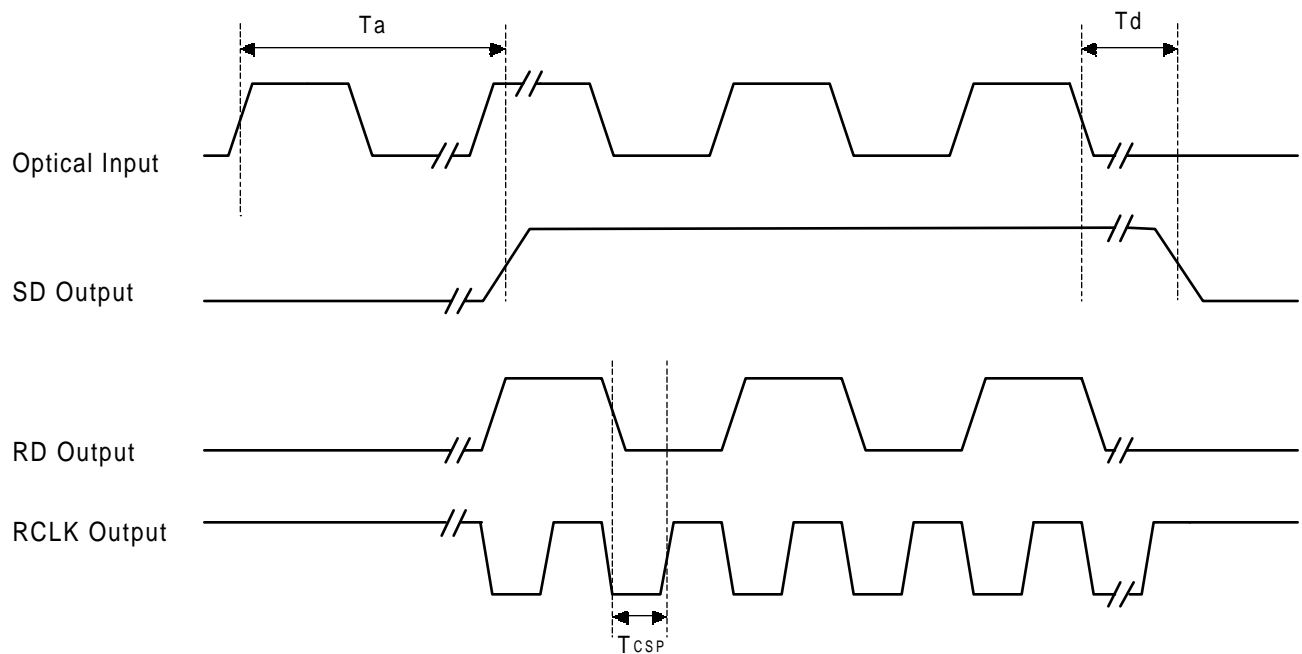

Figure 4 Timing Chart
5. Time difference between RD transition and rising edge of RCLK. Refer to Figure 4.